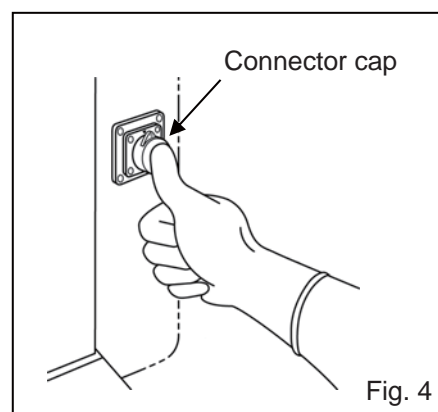

Fig. 4
**Note:** After H2O2 decontamination, replace the connector cap firmly over the connector on the side of the chamber (Fig. 4).